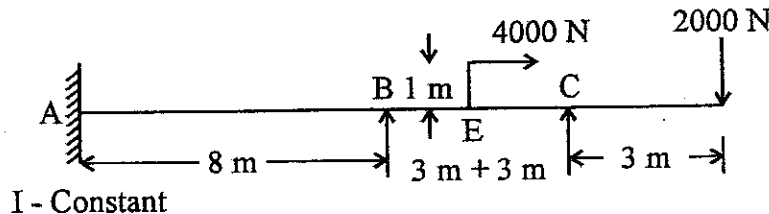

Fig. 1 (iii)
- (iii) Analyze the continuous beam shown in Fig. 1 (iii) by Moment Distribution Method and find the Moment at various points A, B and C. 8